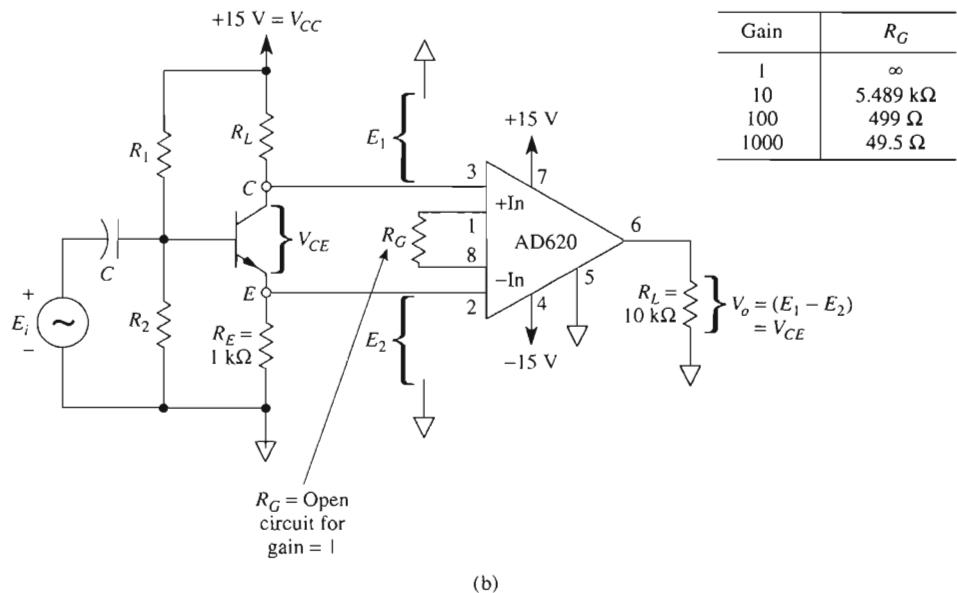

FIGURE 8-9 Package style in (a) and an IA are used to measure a floating differential voltage in (b).
The schematic drawing of a low-cost instrumentation amplifier without a sense input terminal is presented in Fig. 8-9. The AD620 requires only one external resistor to set gains from 1 to 1000. The device can be purchased either in an 8-pin SOIC or DIP as shown in Fig. 8-9(a). The manufacturer gives the relationship between gain and R_G as
For gain values of 1, 10, 100, and 1000, a table listing the R_G values is given in Fig. 8-9(b).
The usual way to measure V_{CE} of a working common-emitter amplifier circuit is to (1) measure collector voltage (with respect to ground), (2) measure emitter voltage (with respect to ground), and (3) calculate the difference. The IA allows you to make the measurement in one step, as shown in Fig. 8-9(b). Since $E_1 = V_{\text{collector}}$ and $E_2 = V_{\text{emitter}}$,
Given $V_o = 5$ V in Fig. 8-9(b), find V_{CE} .